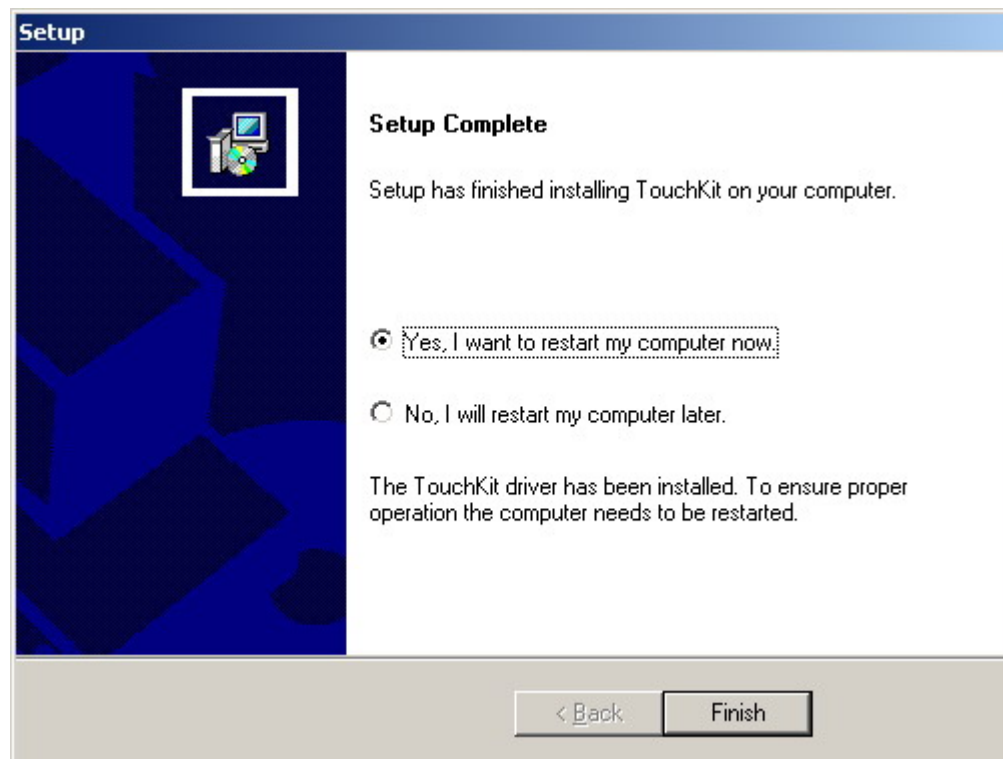

Figure C-10: Installation Complete
Step 15: Once the program is finished installing, the user is prompted to restart the computer now or to restart the computer later (**Figure C-10**). Select when the computer should be restarted and click “**FINISH**” to complete the driver installation procedure.